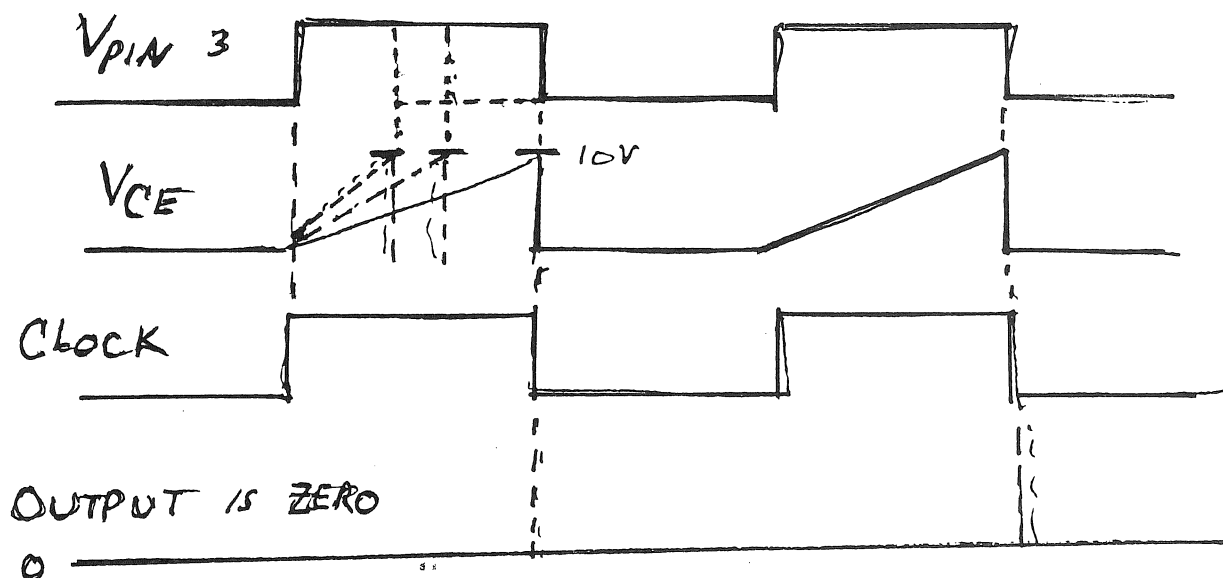

FIGURE 3-14
If the output of Q(A) reaches a particular value such that the charge time of V_{CE} is equal to or less than the high clock time (25 μsec), no output pulse is produced. This establishes a minimum pulse width of zero (see Figure 3-14).